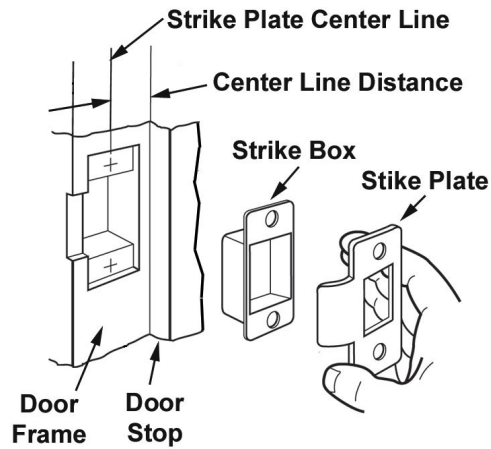

Figure 2-44 – Installing Strike Plate
frame (jam) itself, sometimes it is a rubber bumper, and sometimes it is weather stripping. Determine what stops your door when it is closed and measure $\frac{1}{2}$ the door's thickness from that point and that is the Strike Plate Center Line location (Figure 2-44).
- 2.17.2 Mortise the doorjamb to accommodate the Strike Box and Plate in alignment with the Strike Plate Center Line (Figure 2-44). The mortise must be deep enough so that the installed Strike Plate is flush with the Door Frame.